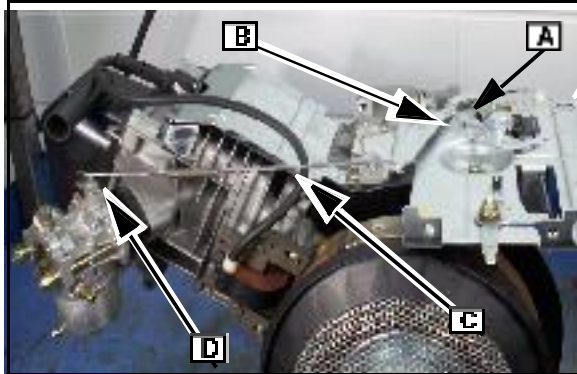

Fig. 33
7. Connect the main governor spring (A), the return spring (B) and the governor link with its spring (C).
8. Connect the other end of the governor link and spring to throttle lever ([D] Fig. 33) and temporarily install carburetor.